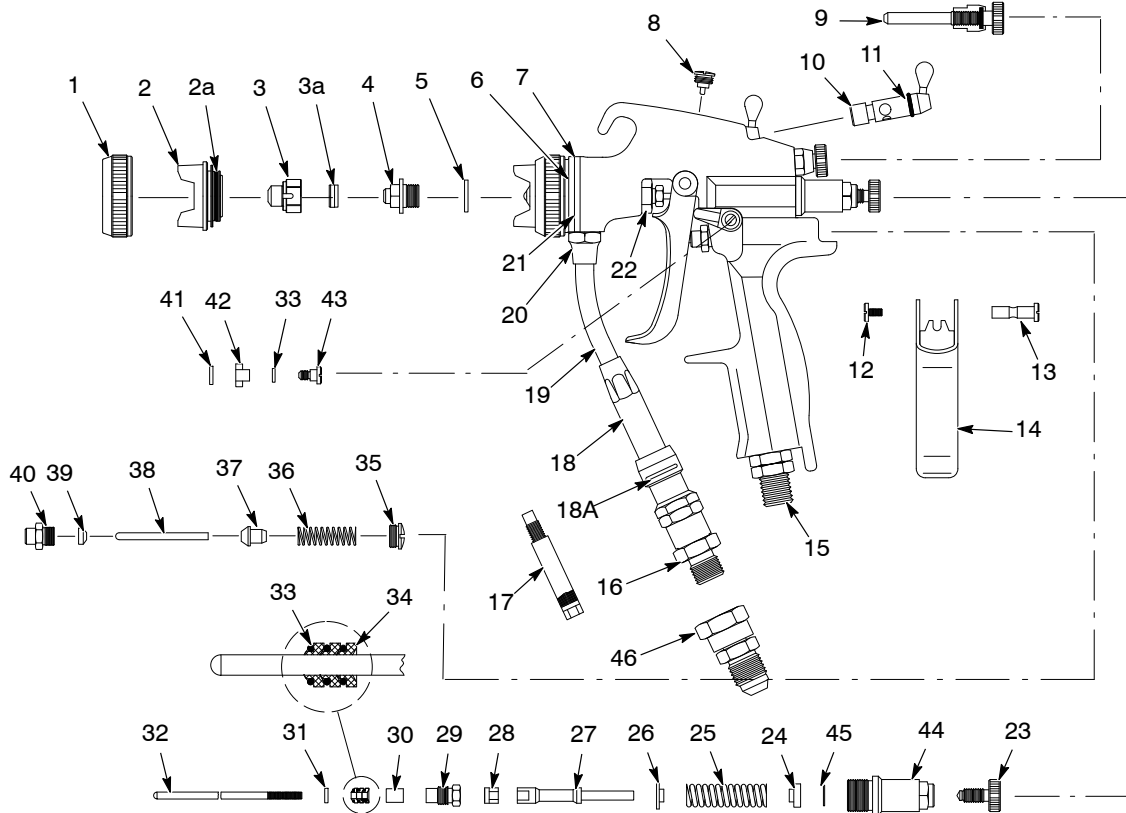

Figure 4 Trilogy AAA Spray Gun Parts
1. See Figure 4. Stop the pump and relieve the fluid pressure.
2. See Figure 4. Hold the filter base (18) with one wrench while you unscrew the hose connector (16) with another wrench.
3. Unscrew the filter (17) from the filter base (18).
See Figure 4. The atomizing air regulator O-ring (11), air seal (39), and trigger axle (13) should be lubricated regularly with silicone-free oil or silicone-free grease.
These troubleshooting procedures cover only the most common problems. If you cannot solve a problem with the information given here, contact your local Nordson representative for help. See Figure 4 for parts.
1. See Figure 4. Remove the air cap retainer, air cap, and nozzle (1, 2, 3).
2. Push the nozzle (3) out of the air cap (2).
1. See Figure 4. Unscrew and remove the spring cap (44), spring, and washers (24, 25, 26).
2. Loosen the needle packing gland (28).
1. See Figure 4. Remove the needle as described in *Needle Replacement*.
3. Unscrew the chamber nut (22) and slide it off the packing gland (29).
4. Pull the entire atomizing chamber (21) out of the front of the gun body. Note that in the gun body are one small black O-ring and two larger white seals (6, 7). Inspect and replace them if damaged.
5. Unscrew the the packing gland (29) from the atomizing chamber. Remove the gland collar (30), then pull the O-rings (33) and cup seals (34) out of the gun body.
1. See Figure 4. Remove the trigger screw, axle, and trigger (12, 13, 14).
2. Unscrew the valve packing gland (40).
3. Pull out the old valve seal (39) and replace it with a new one.
2. Loosen the packing gland (29).
3. Unscrew the spring cap (44) and remove the spring and washers (24, 25, 26).
5. Unscrew the seal retaining screw (4) with a 10-mm socket wrench, and remove the aluminum seal ring (5).